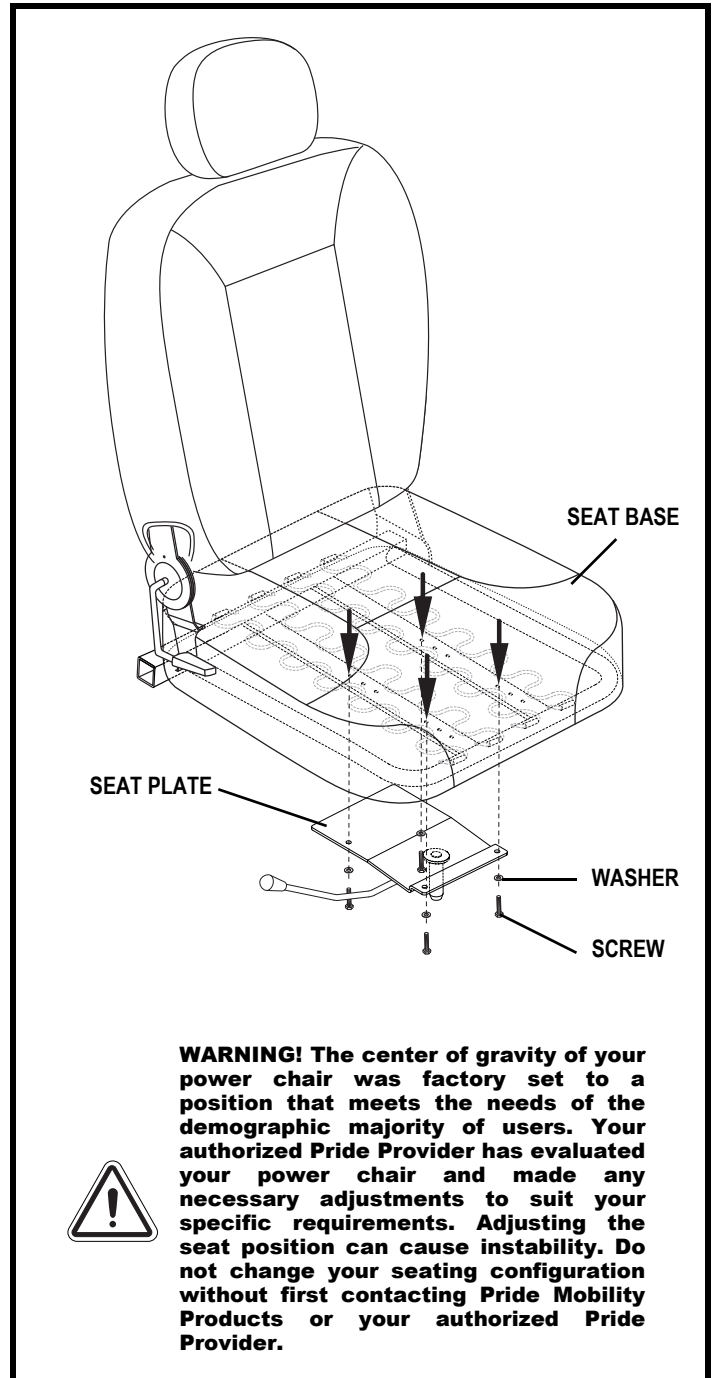

Figure 12. Seat Position Adjustment
5. Remove the screws and washers from the bottom of the seat plate. **See figure 12.**